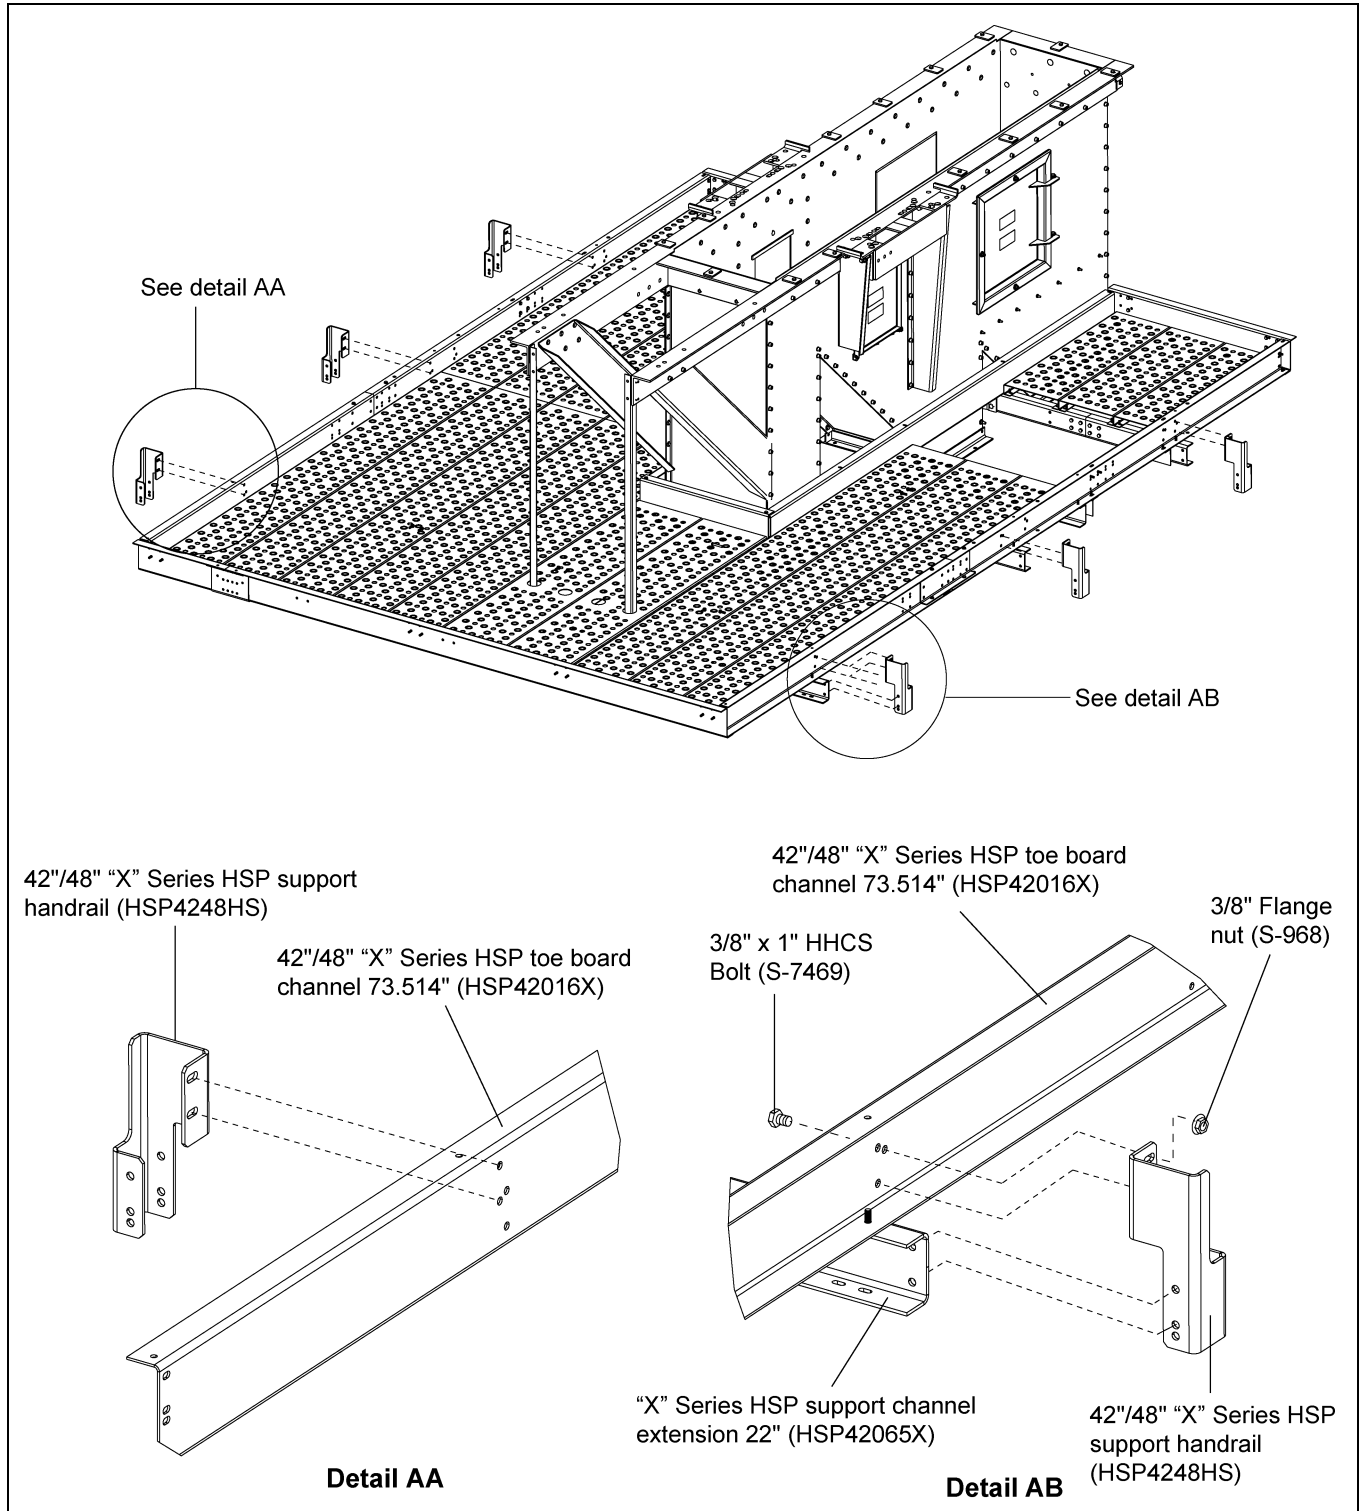

Figure 8N
1. Attach the ends of each support channel to the toe boards using six (6) handrail support brackets (HSP4248HS). Fasten together using 3/8" x 1" HHCS bolts (S-7469) and 3/8" flange nuts (S-10028). (See Figure 8N.)